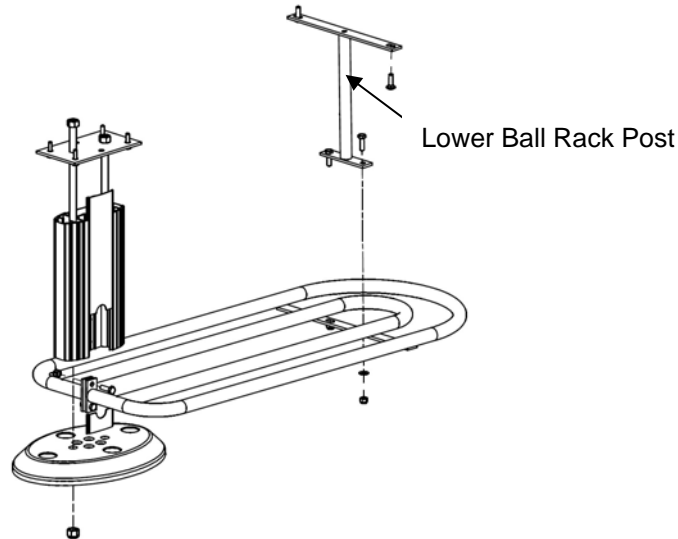

Figure 12, Pedestal Assembly with Lower Ball Rack
1. If the Ball Rack is to have the optional lower ball rack, attach the lower rack to the pedestal and use the grey moldings that have the semi-circle cut in them instead of the square edged pieces. See Figure 12.
2. Attach the Pedestal and if there is one, the Lower Ball Rack Post (shown in figure 12) to the underside of the Ball Rack.